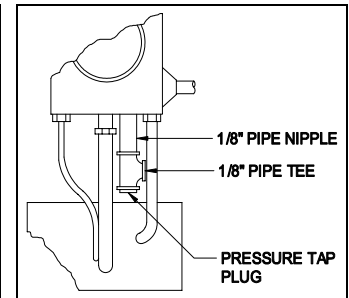

Figure 9
2. Replace the pressure tap plug with the 1/8" pipe nipple and pipe tee. Install pressure tap plug at the bottom of the pipe tee. (See Figure 9)